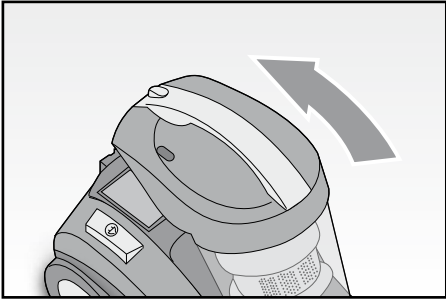

Fig. 11
- Now refit the whole dust container (A) onto the appliance body, pressing gently until it clicks into place (Fig. 11).